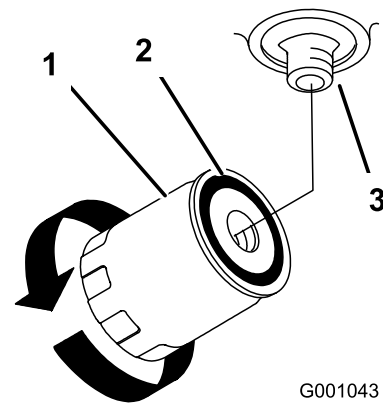

Figure 59
3. Apply a thin coat hydro fluid to the rubber gasket on the replacement filter (Figure 59).
7. Fill the hydraulic tank with hydraulic fluid until the fluid overflows the filter and then turn the oil filter clockwise until the rubber gasket contacts the filter adapter, then tighten the filter an additional 1/2 turn (Figure 59).